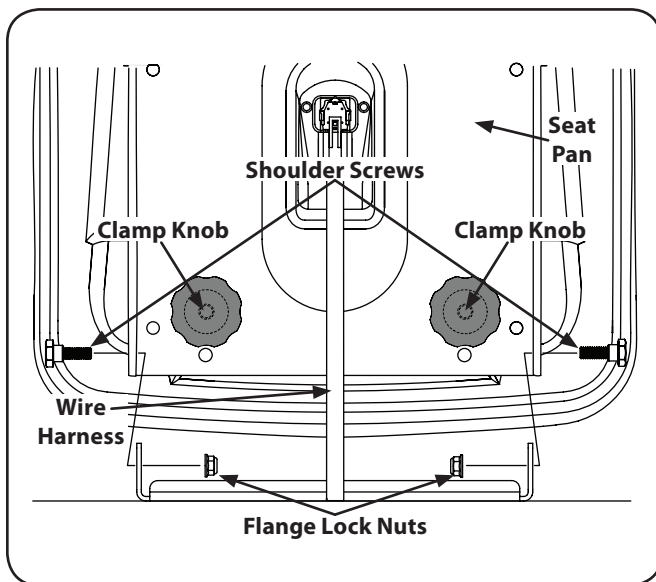

Figure 3-4
- Remove the two shoulder screws and flange lock nuts in the seat pan as shown in Figure 3-4.
- Rotate the seat into position and secure the seat into place with the previously removed shoulder screws and flange lock nuts. Be careful not to crimp or damage the wire harness while installing the seat. See Figure 3-4.
To adjust the position of the seat, rotate the seat forward and locate the clamp knobs on the front of the seat pan. Refer to Figure 3-4.